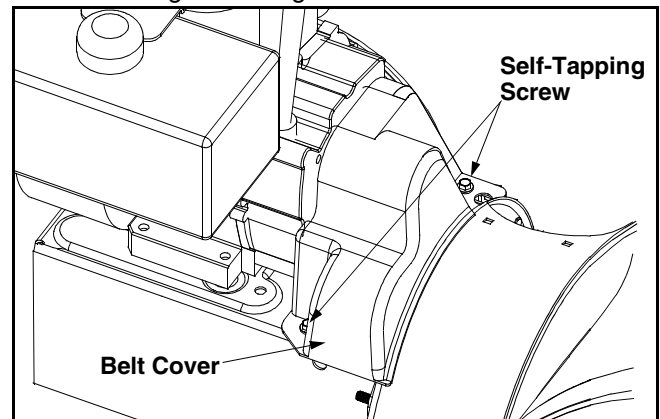

Figure 25
- Remove the plastic belt cover on the front of the engine by removing the two self-tapping screws. See Figure 25.